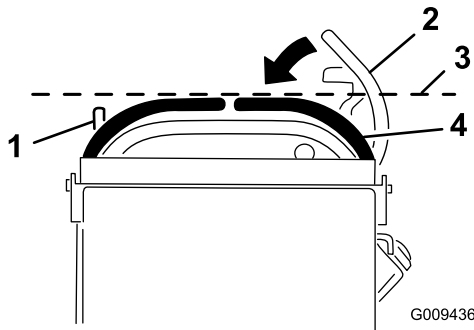

Figure 63
3. Push the right motion control lever down out of locked neutral position (Figure 63).
4. Check if it aligns horizontally with the left motion control lever (Figure 63).